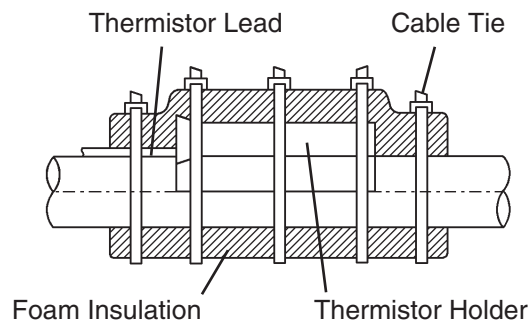

Fig. 5
- 5) Remove the plastic cable ties, foam insulation, thermistor holder, and thermistor. See Fig. 5.